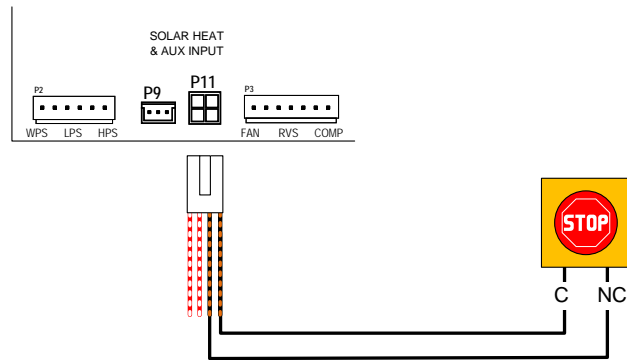

Figure 153. Auxiliary Input Wiring
2. Inside the heater's control box, connect the 2-wire cable to the control board terminal labeled "SOLAR" [P11] using the harness adapter labeled "Solar Temperature Sensor / Auxiliary Safety Input" supplied with the heater in the accessories bag. Make sure to use only the orange wire with black stripes to connect the external safety device. See Figure 153 for details.